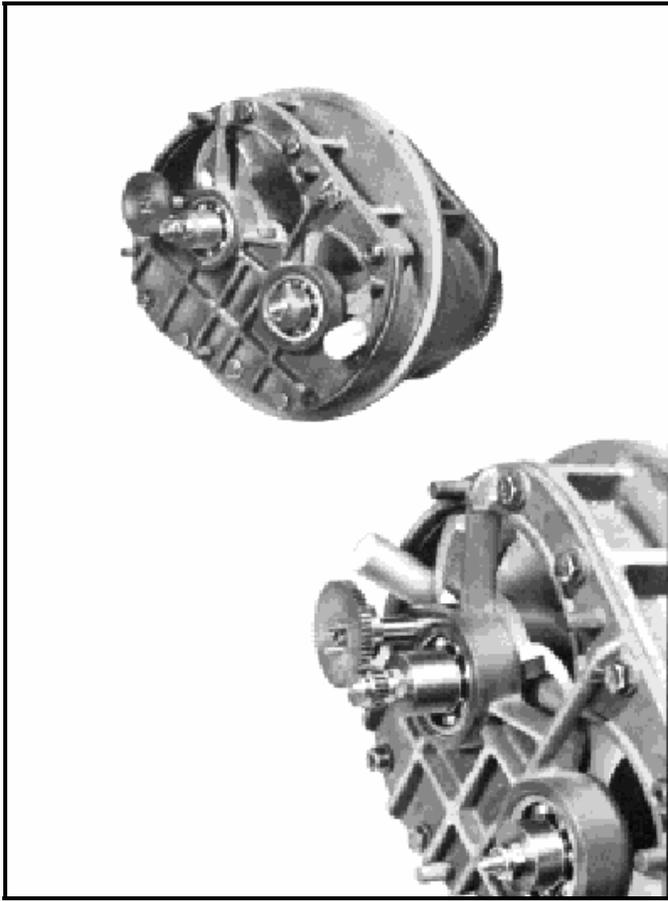

Figure 4-1 Blocking Rotors
2. Block Rotors with a plastic or wooden rod, Figure 4-1.
3. Remove retaining ring (item 8) and washer (item 9) from driven gear assembly (item 10).
4. Remove driven gear (item 10) and gear shaft (item 11).
5. Remove set screw (item 7) from the drive gear (item 6). Lift off drive gear.
6. Remove adjustment nuts (item 3) from rotor shafts, and bearing retainers (item 4). Do not remove front end plates at this time.